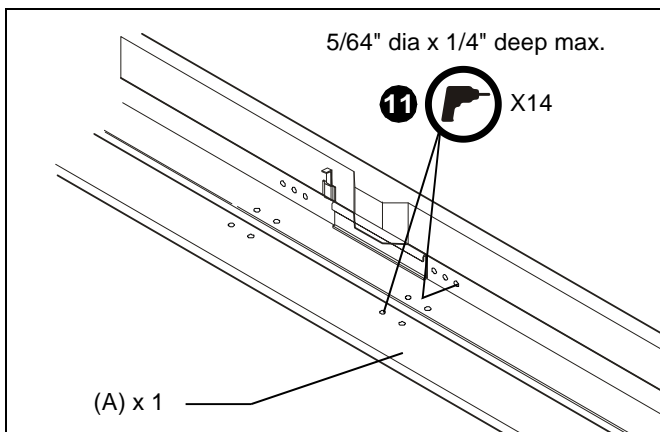

Figure 7
11. Remove retro bracket (A) and drill a pilot hole at each of 14 marked mounting holes. (See Figure 7)